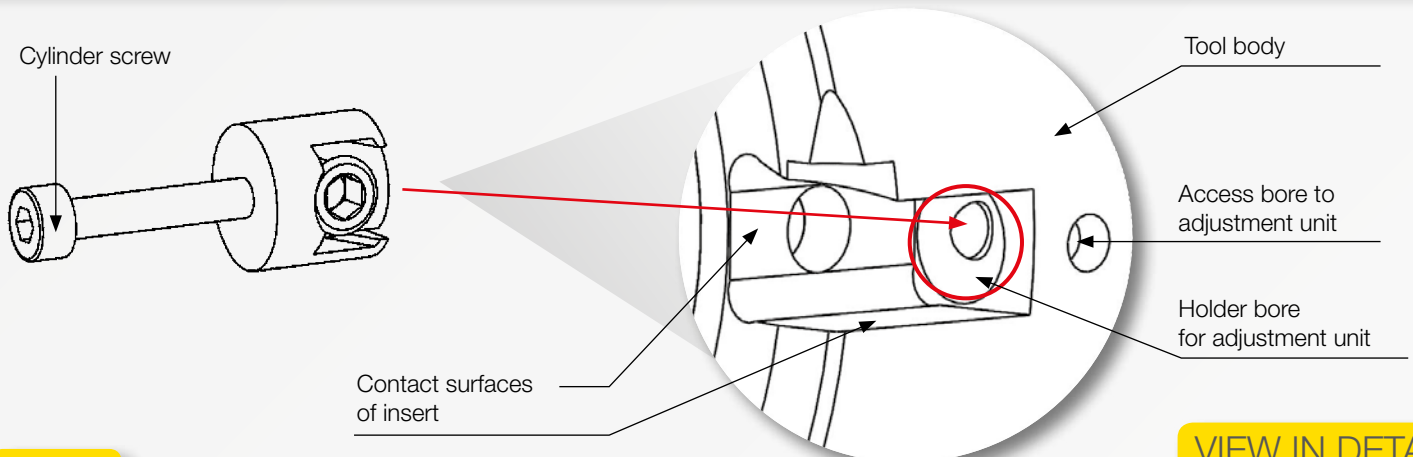

FIG. 2
- engage the hexagon (SW3) of the threaded pin via the access bore and unscrew anti-clockwise to the stop (fig. 2).